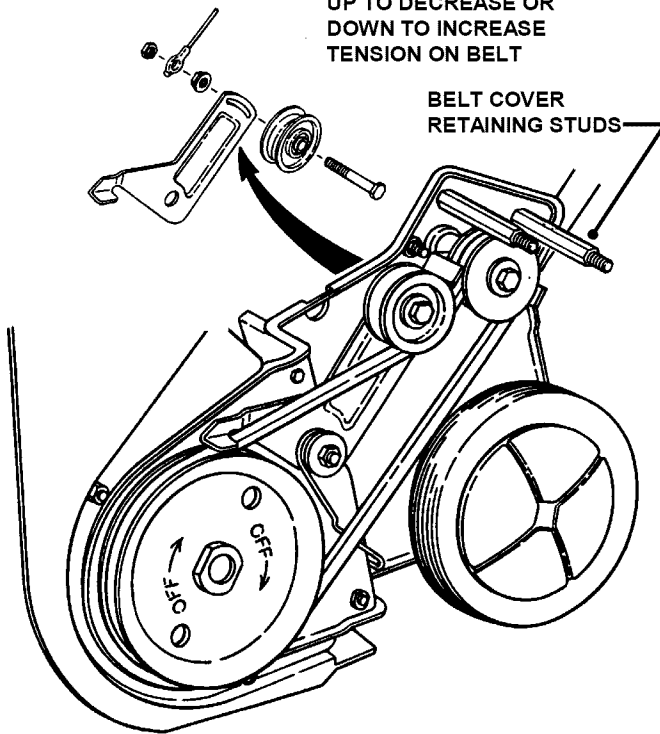

FIGURE 4.3
- Loosen nut and bolt that secures the idler pulley to idler arm. Move idler pulley down for more tension or up for less tension on belt. See Figure 4.3. Retighten bolt and nut securely.